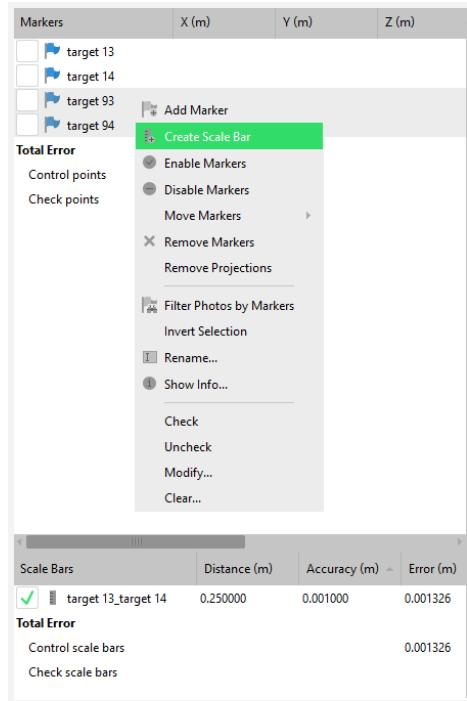

Figure 4.14 Agisoft Metashape screenshot highlighting scale bar creation.
- Under the Markers tab, choose matching markers that make up a scale bar according to the datasheet (Figure 4.14).